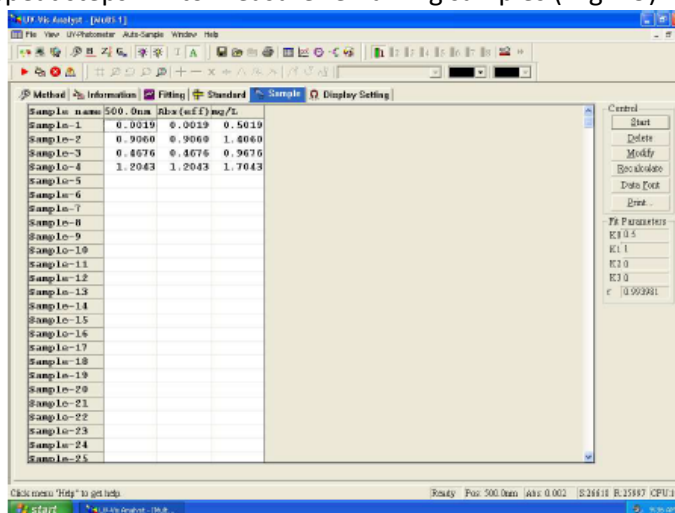

Fig. 4-9
16. Repeat steps 4-7 to measure remaining samples (Fig 4-9).